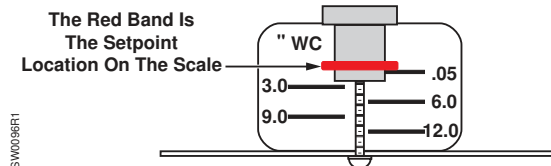

**Figure 2. Switches with Covers Removed.**
Connect the static pressure line to the low inlet (marked on the case and Figure 2) and leave the high inlet open to the atmosphere.
Connect the static pressure line to the high inlet (marked on the case and Figure 2) and leave the low inlet open to the atmosphere.
Connect the highest static pressure line to the high inlet and the lowest static pressure line to the low inlet (marked on the case and Figure 2.)
1. To increase the setpoint, turn the adjustment screw clockwise as shown in Figure 2 and Figure 3. From the lowest setpoint, several turns are necessary to engage the adjusting mechanism.